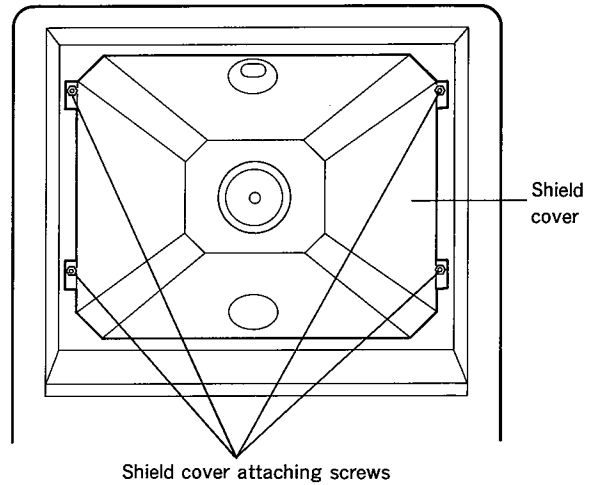

Fig. 2-2
4. Remove 4 screws retaining the shield cover, as shown in Fig. 2-2.